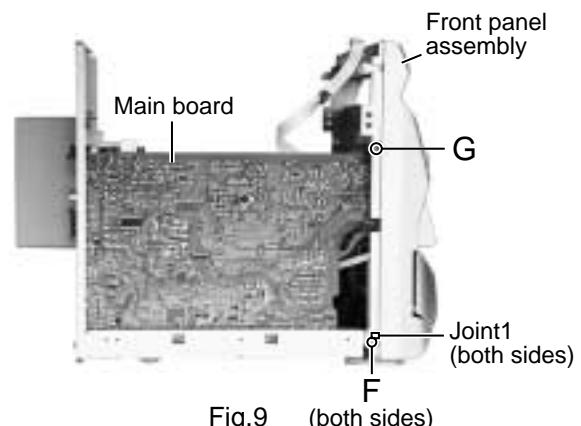

Fig.9 (both sides)
- Remove the screw **G** attaching the main board holder to the front panel assembly. (See Fig.9)